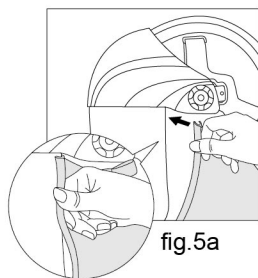

fig.5a
Step 1 : Insert the U-shaped sealing layering into the edge of face shield lens. Use the thumb to press the edge of sealing layering to make it fix into the face shield lens (See fig.5a).